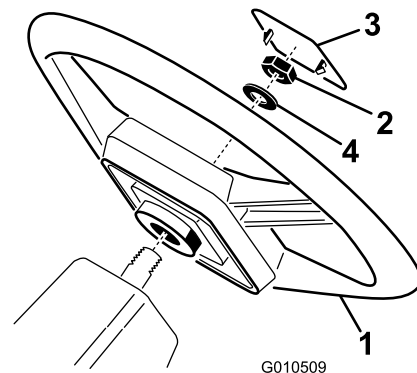

Figure 3
1. Remove the nut from the steering shaft. Slide the steering wheel and washer onto the steering shaft (Figure 3).